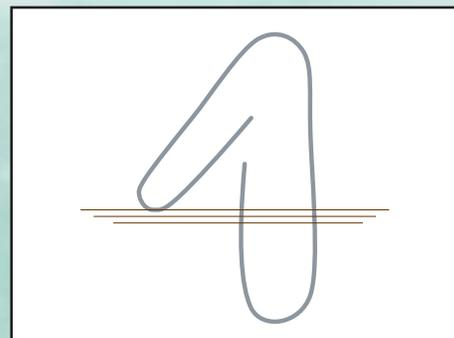

Fig. 1: Paper clip poised to bent
3. Move the smaller loop of the clip to the edge of the table (the big loop should now overhang—see Figure 1).